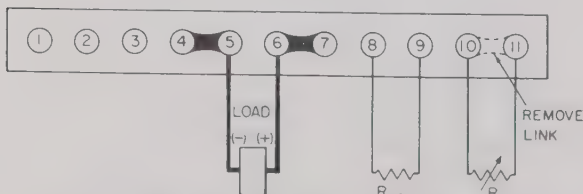

FIG. 3-8 CONNECTIONS FOR CONDUCTANCE PROGRAMMING
3.30 Procedure (Refer to Fig. 3-8)